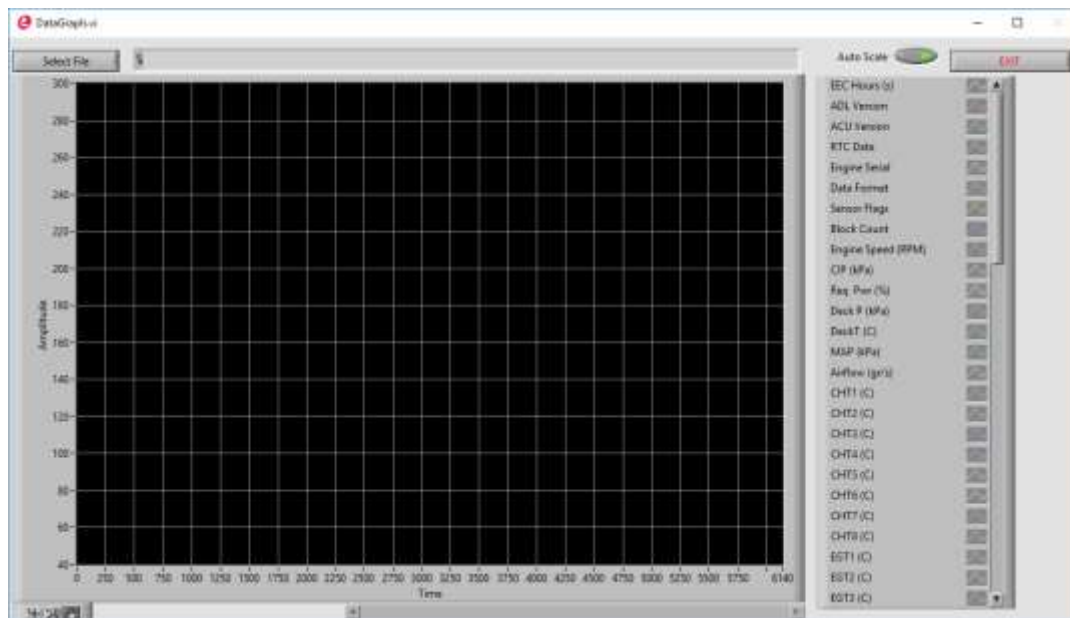

Figure C-35
3. The program will open a separate Datagraph window (Figure C-35).